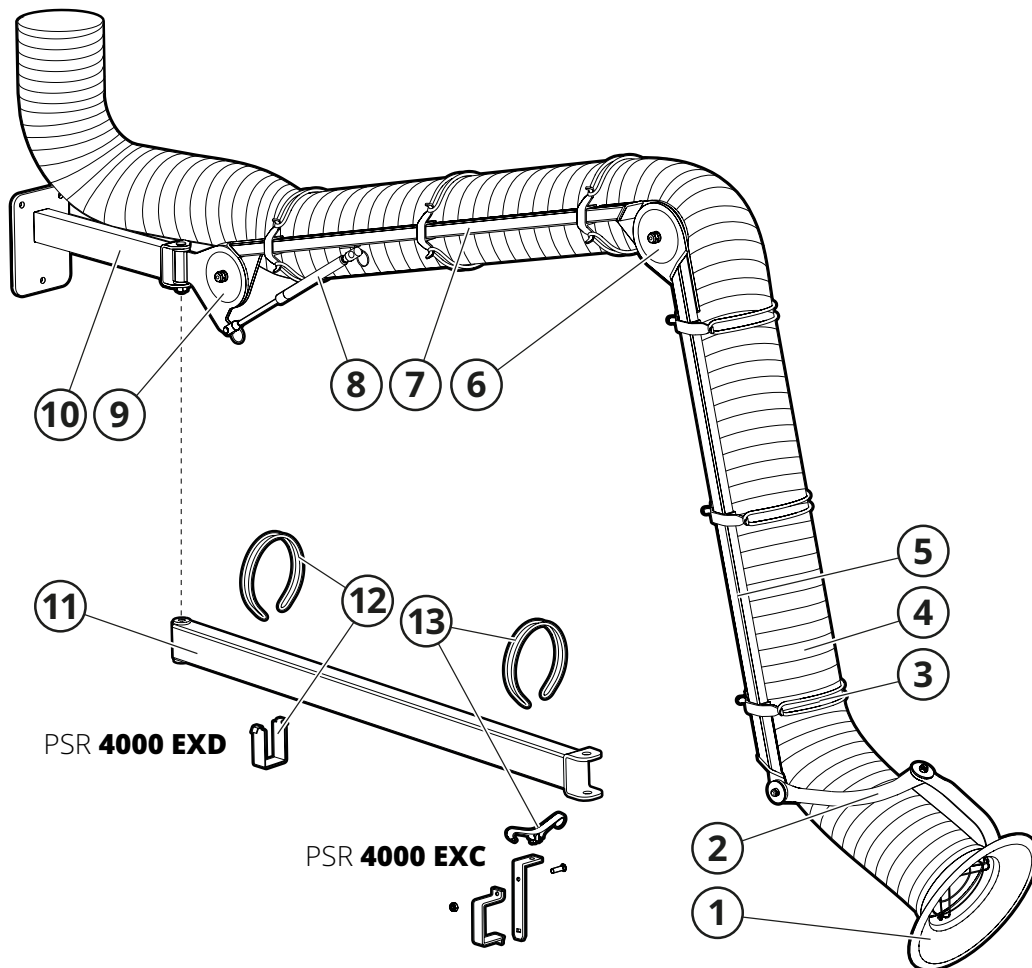

Fig. 2
See Fig. 2.
The extraction arm is mounted on a wall bracket (10, Fig. 2) as standard and has externally attached support arms (5, 7). The upper joint (9) is fitted with a gas spring (8) to balance the weight of the arm. The extraction arm's resistance is regulated at each joint (6, 9). The hood (1) is designed for maximum suction efficiency and is ideal for gas and duct extraction. The hood joint (2) can be bent 180°+180°. The hose (4) is mounted on the arm via a Fumex Q-MaiD™ hose mount (3).